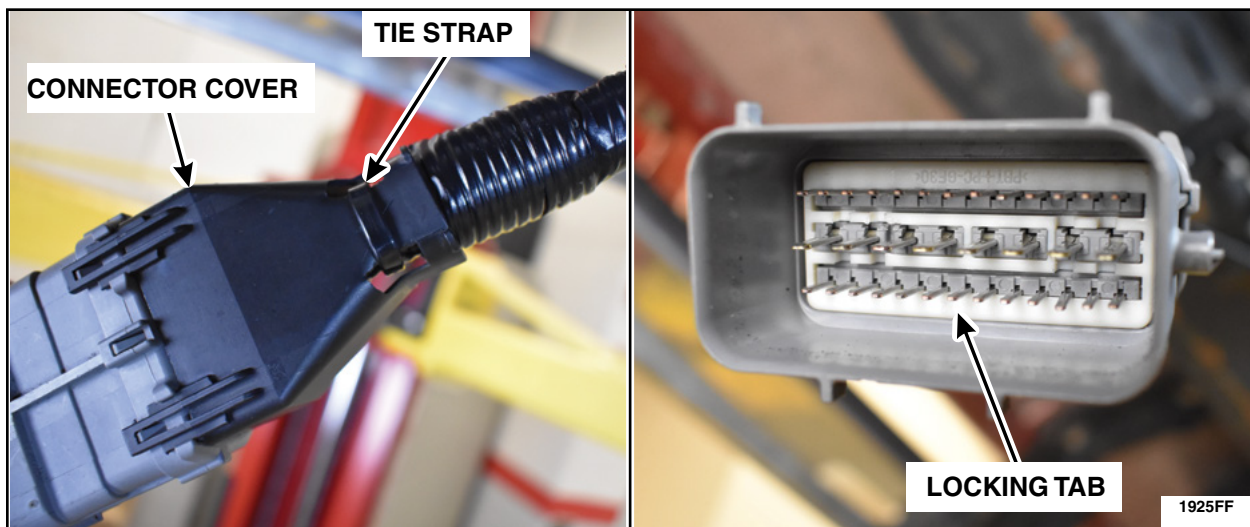

FIGURE 42
44. Remove tie strap from the male end of C408, remove the connector cover and the white locking tab. See Figure 42.